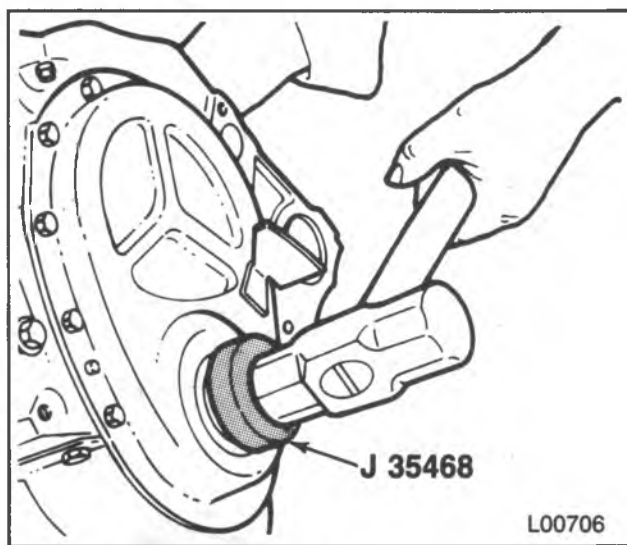

Figure 17 — Installing the Front Crankshaft Oil Seal
Install or Connect (Figures 17 and 18)
2. Front crankshaft seal. Use J 35468 (figure 17). The open end of the seal faces inside the engine. Coat the seal lips with engine oil.
Install or Connect (Figure 17)
1. Front crankshaft seal. Use J 35468 (figure 17). The open end of the seal faces inside the engine. Coat the seal lips with engine oil.